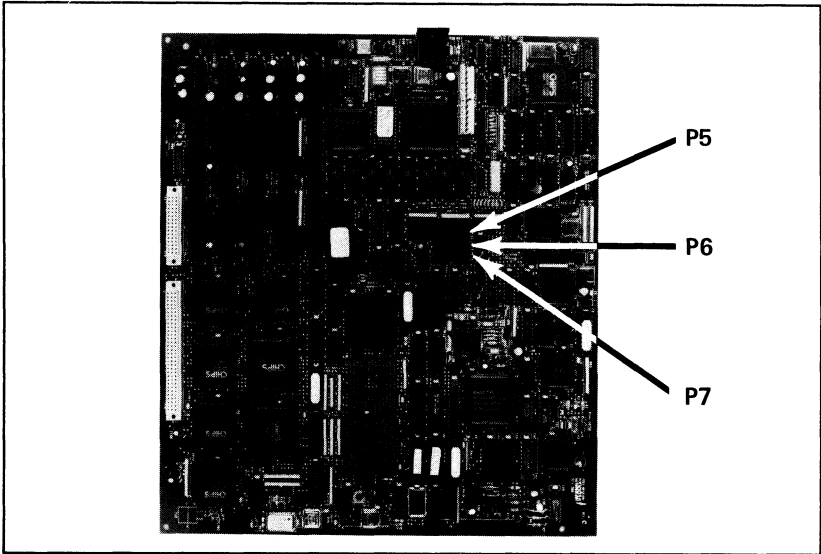

Figure 2-9. Hard Disk Drive Cable Connections on the Motherboard
4. Make certain that the disk drive cables are connected to the motherboard and that the red conductor on the ribbon cable corresponds to pin 1. Refer to Figure 2-9. The cable connections are as follows: